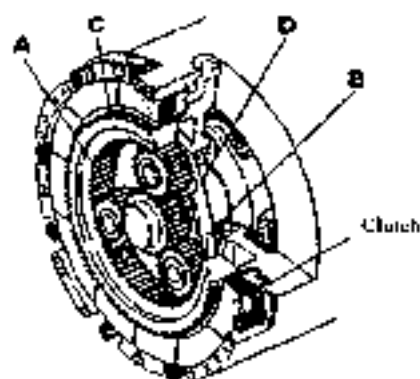

Fig. 2-10 Operation principle of planetary gear
The planetary gear system is composed of sun gear(A), planetary gear(B), ring gear(C) and carrier(D) (See Fig. 2-10). The planetary gear(B) is supported on the carrier (D) and meshes with the sun gear(A) and the ring gear(C).